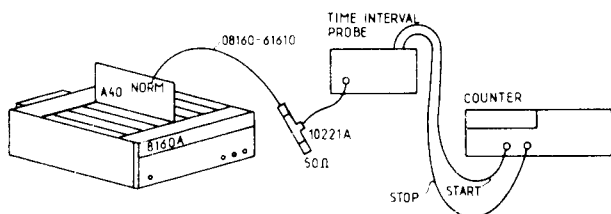

Figure 5—20
10. Change DVM trigger by scope delay (figure 5—19) and measure bottom level.